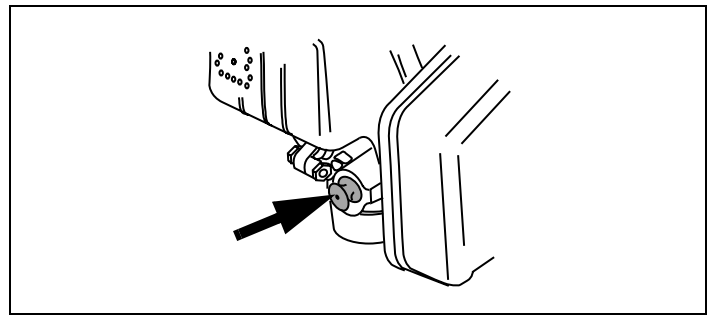

Figure 15. Engine Primer Bulb
3. When starting a cold engine, push primer bulb firmly with your thumb 3 times, allowing primer bulb to return completely to original position between pushes. See Figure 15.